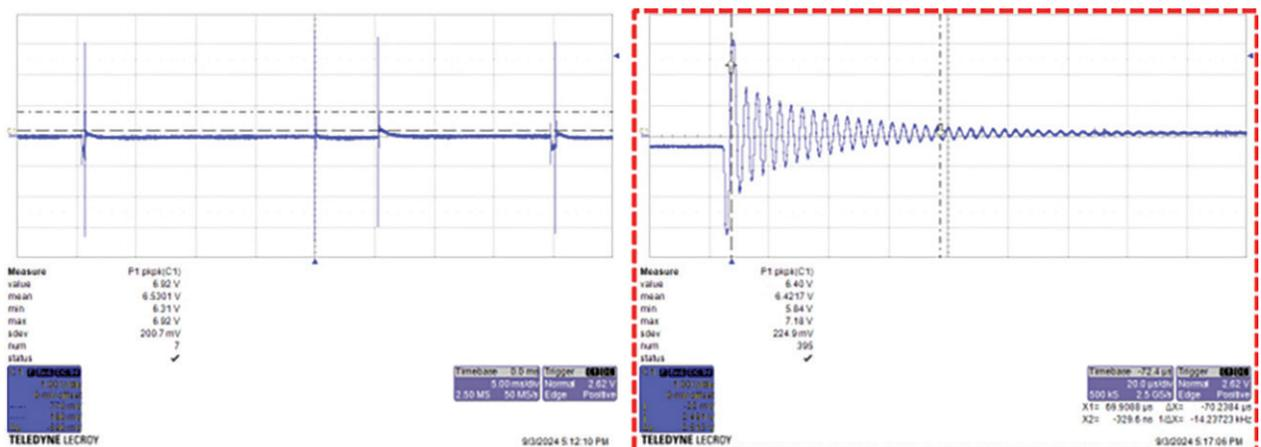

Figure 6: Signal artifact of high voltage generation. The signal from the ionizer Model 5225 in steady-state mode (DC ionization)
detected. These frequencies (characterized by long wavelengths) pose no risk but are worth noting. These “other frequencies” arise from the high voltage (HV) generation inside the ionizer, which is necessary for ion production. The HV generation (illustrated in Figure 6) typically involves either a fly-back or resonance circuit powering a step-up transformer. This creates an electric field that becomes noticeable when the device is within approximately 3 inches (or less) of the ionizer. Any ionizer, whether DC or AC, which uses high voltage generation will produce this effect.